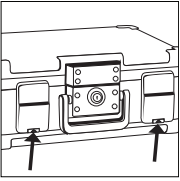

Figure 1
1. Press in on small black piece at bottom of latches (Figure 1).